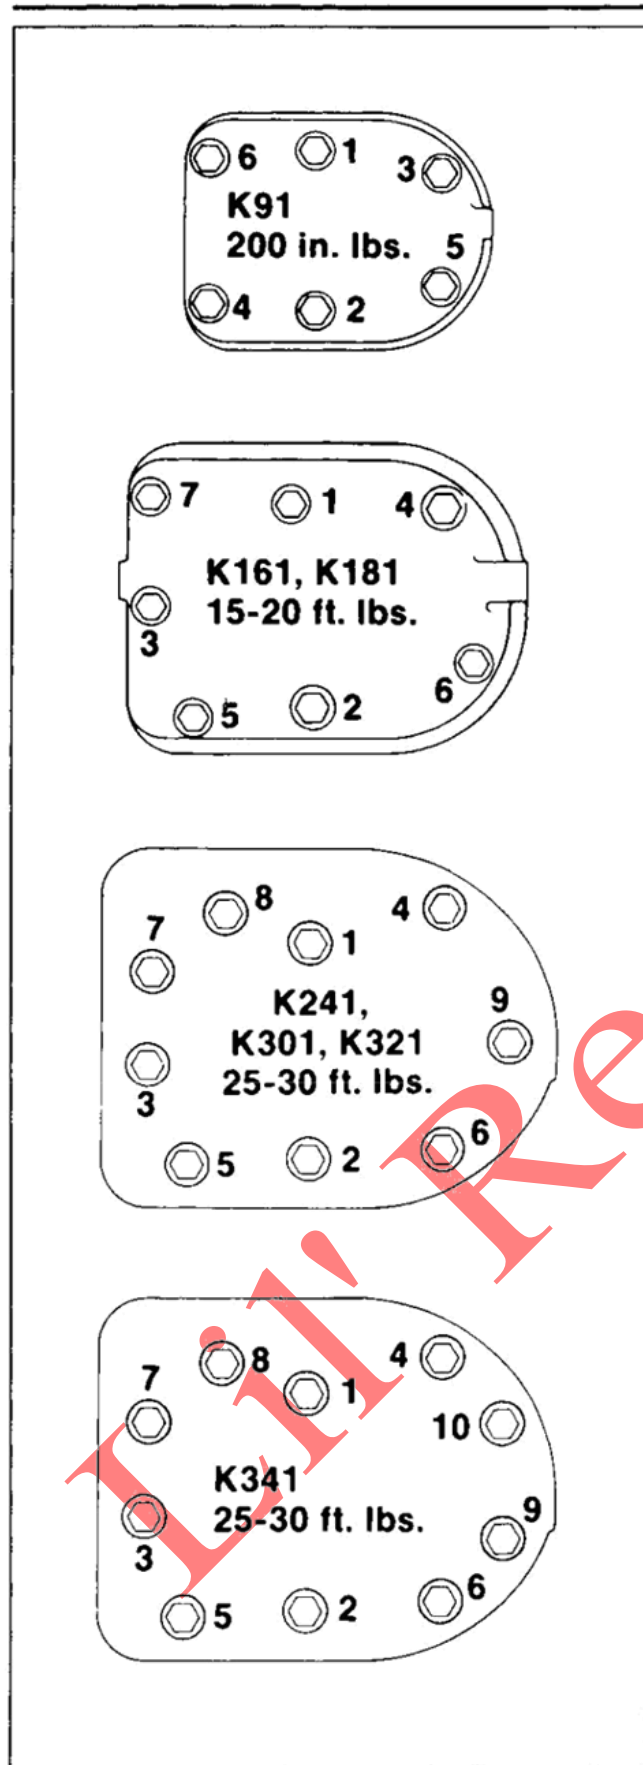

Figure 12-44. Cylinder Head Fastener Torque Sequence.
2. Torque the hex cap screws and hex nuts (in increments) in the sequence and torques shown in Figure 12-44.